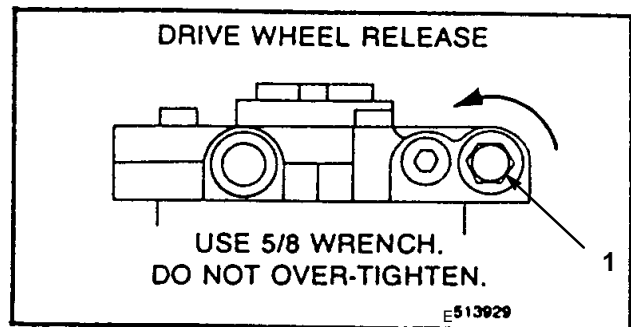

Figure 14
2. Rotate the by-pass valves counterclockwise 1 turn to push. This allows hydraulic fluid to by-pass the pump enabling the wheels to turn (Fig. 14).
1. Rotate the by-pass valves clockwise 1 turn to operate machine (Fig. 14).